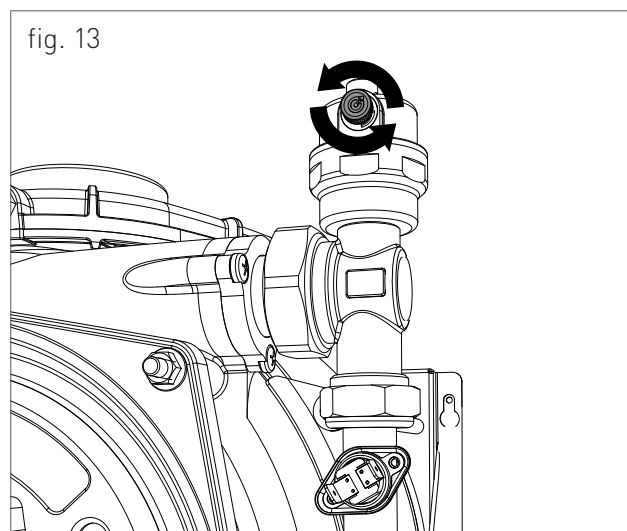

fig. 13
3. Slightly loosen the cap of the air eliminator placed on the top of the condensing block (fig. 13) to release the air from the top of the system;